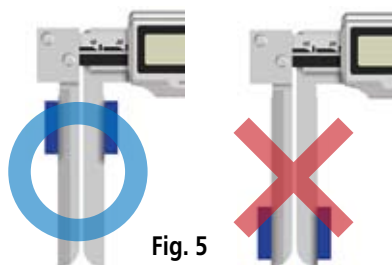

Fig. 5
1. Make sure to apply constant force during measurement, and measure an object as close as possible to the root of the jaws. (**Fig. 5**)